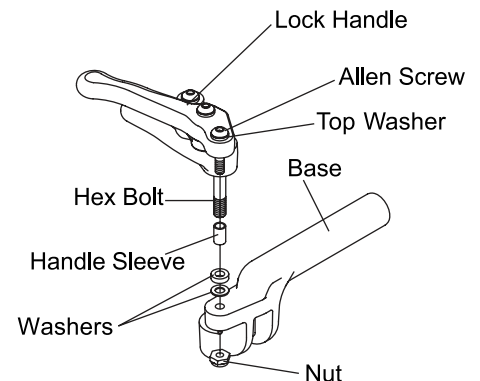

Figure 80
8. Reattach the handle to the base by inserting the Allen Screw removed in Step 1 through the top washer, the handle sleeve, the handle, the two middle washers, the base and the bottom nut. See Figure 80.